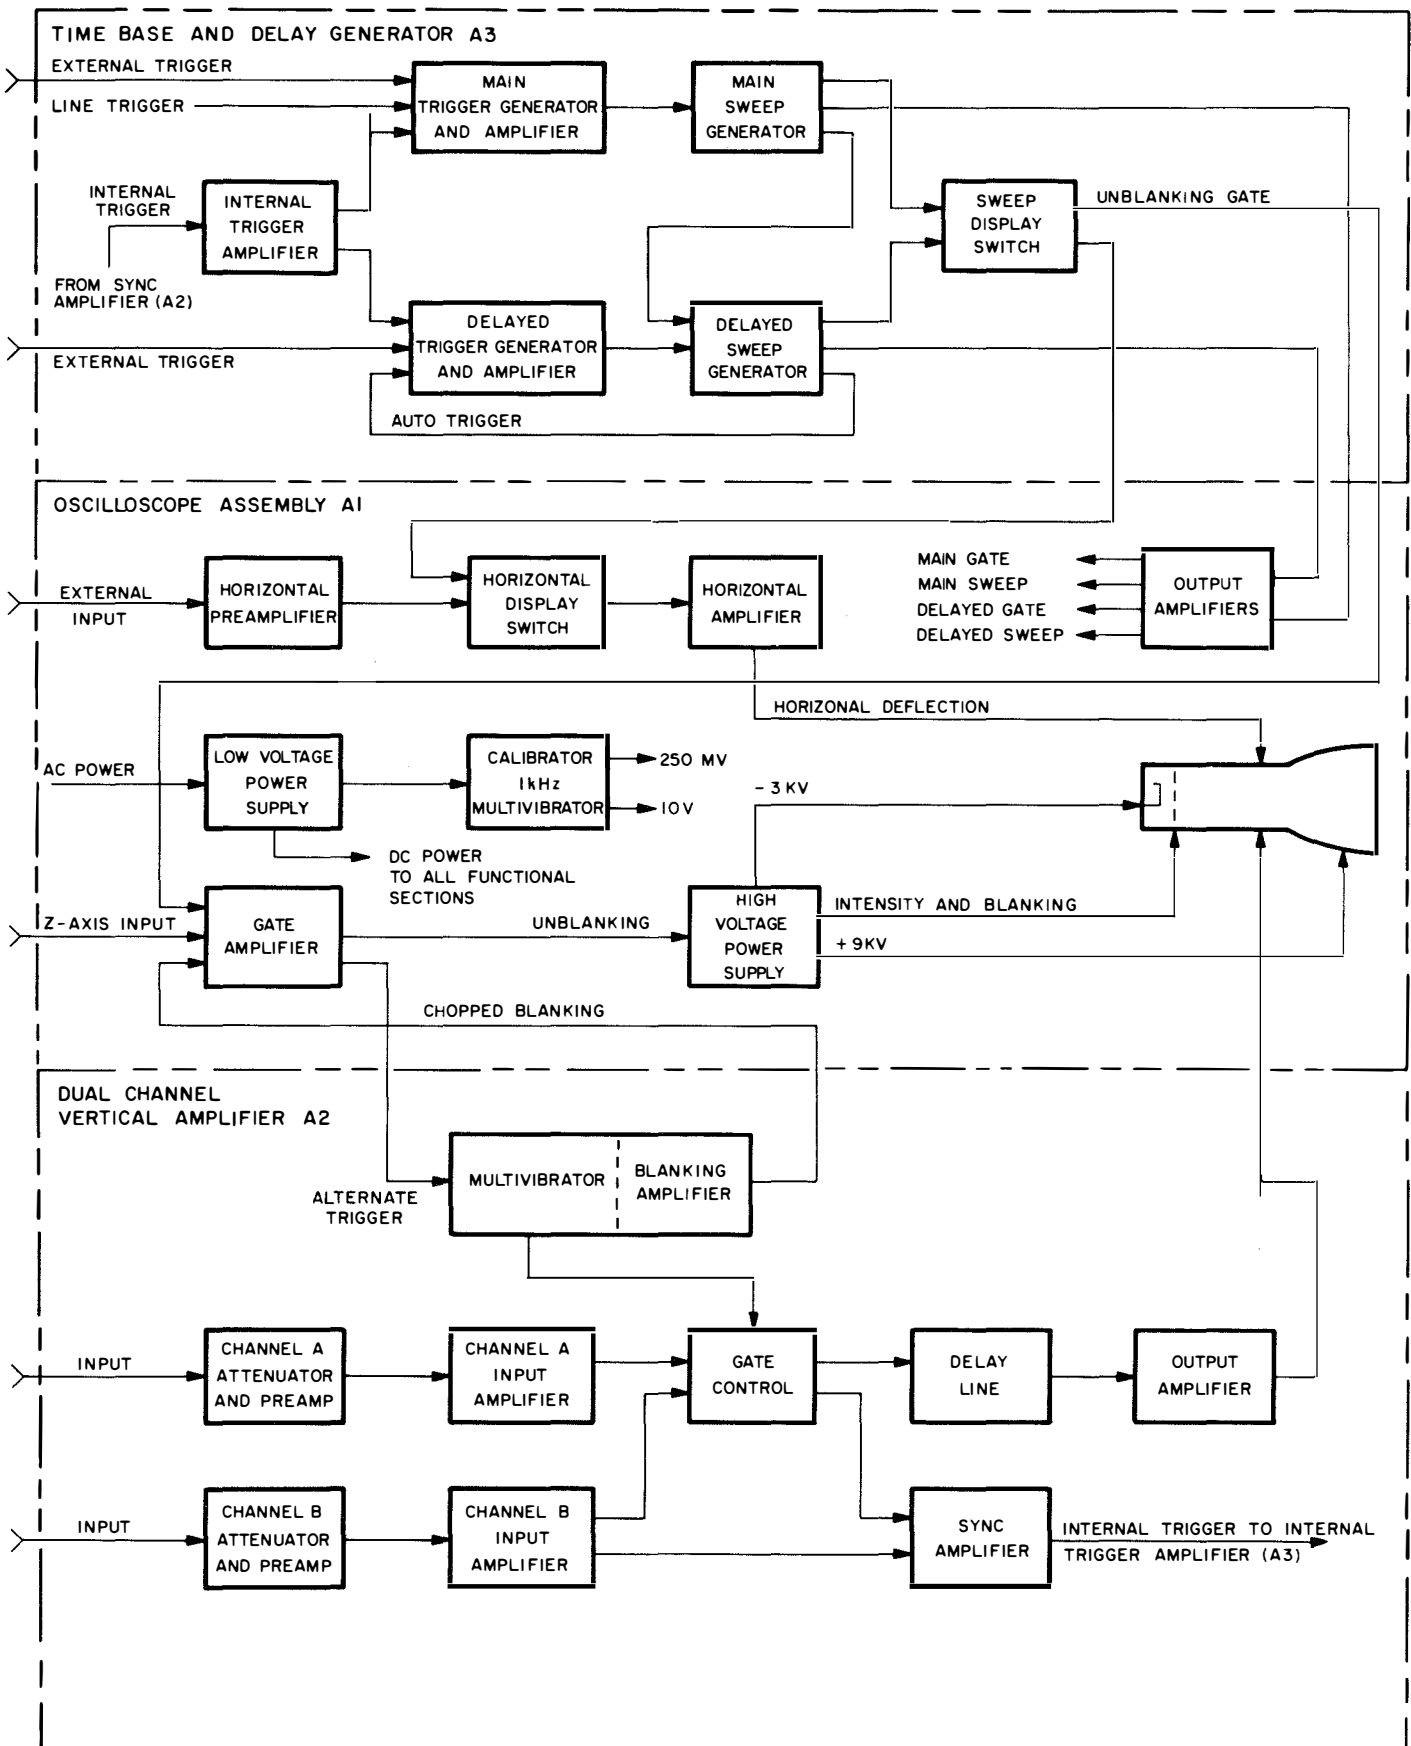
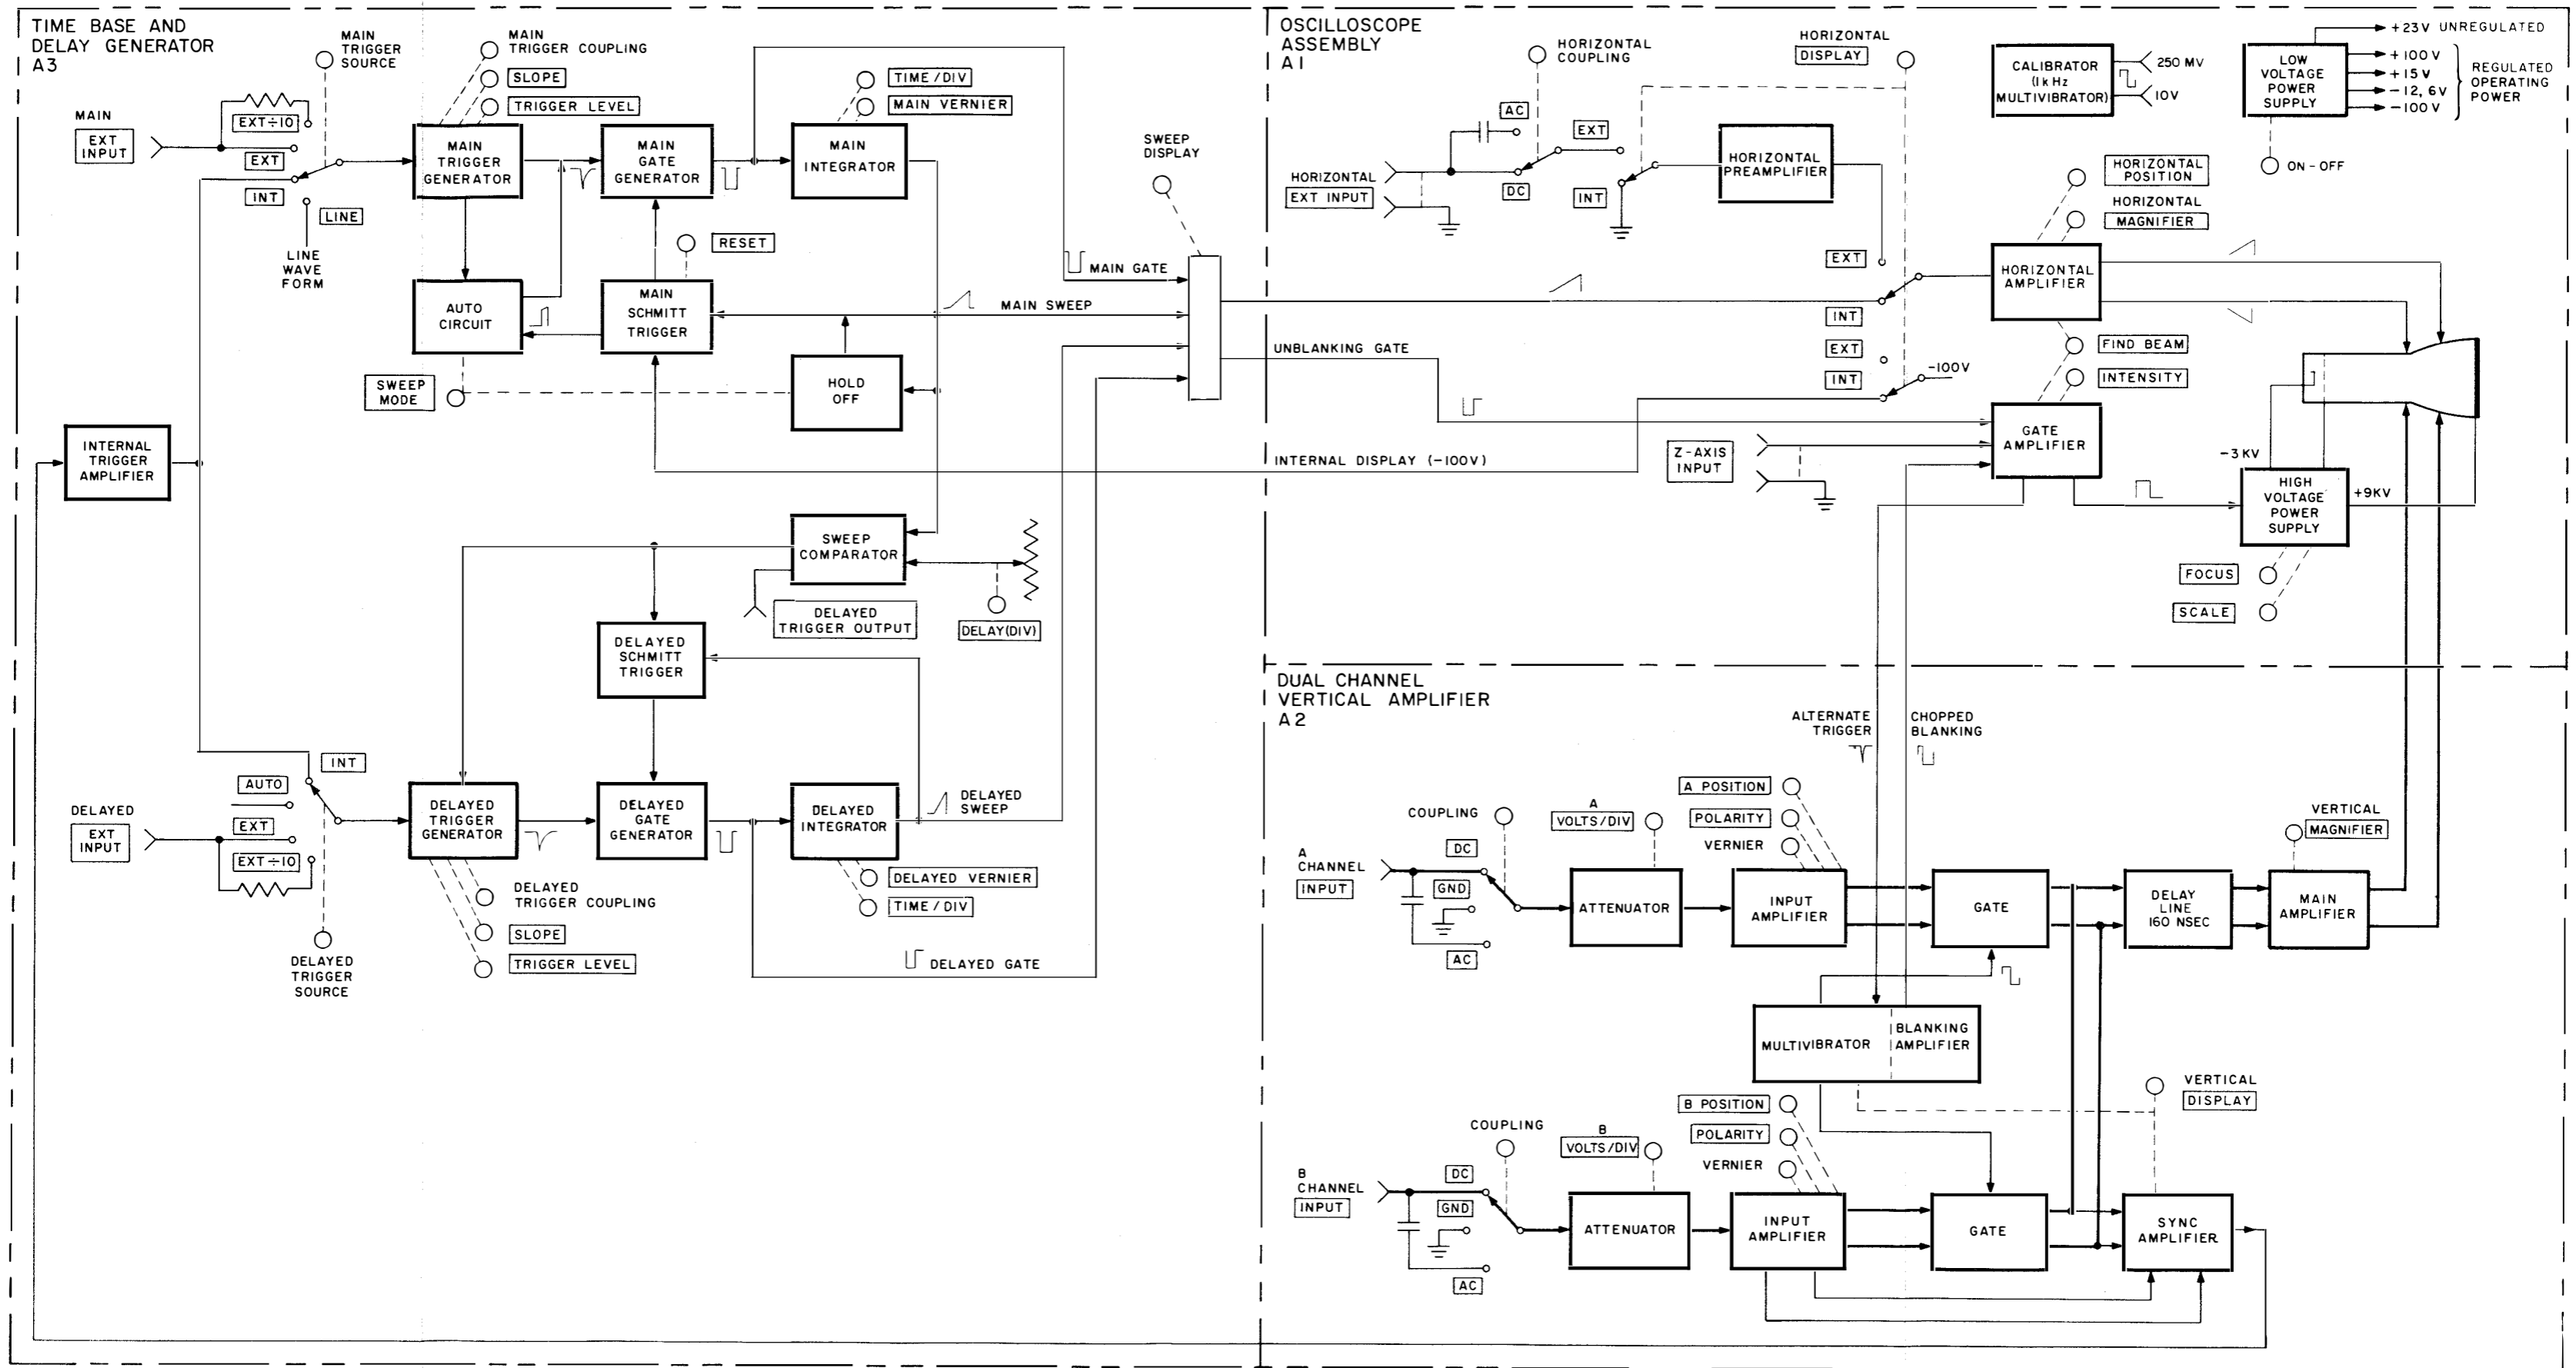

Figure 4-1. Oscilloscope Overall Functional Block Diagram
Figure 4-2. Oscilloscope Overall Functional and Servicing Block Diagram
c. LISTING PROBABLE FAULTY FUNCTION. - The next step in the logical trouble shooting is to formulate a number of mental choices as to the cause and functional section of the malfunction. This decision must be based on a complete understanding of instrument operation, and a full identification of the trouble symptom. With this in mind, consult the overall functional description and the associated block diagram (figure 4-1) and select the possible faulty functional sections.
d. LOCALIZING THE FAULTY FUNCTION. - After selecting the possible faulty functional sections the trouble must be systematically isolated to one functional section. This is accomplished by testing each section in the most efficient order. Use the overall trouble shooting section (table 4-2) and servicing block diagram (figure 4-2) as an aid in isolating the problem to a single functional section.
The oscilloscope requires three signals to produce a usable display on the CRT. These are intensity, horizontal deflection, and vertical deflection. Refer to figure 4-1 for the functional block diagram of the oscilloscope. The circuitry for producing intensity is included in the oscilloscope assembly and consists of the low and high voltage supplies and the gate amplifier. The circuitry for producing internal horizontal deflection consists of the horizontal amplifier contained in the oscilloscope assembly; and the internal trigger amplifier, main and delayed trigger generators, and main and delayed sweep generators located in the time base and delay generator. The oscilloscope assembly also contains a horizontal pre-amplifier for accepting external horizontal deflection signals. The circuitry for producing vertical deflection is located in the dual channel vertical amplifier and consists of a channel A and B attenuator and pre-amplifier, a channel A and B input amplifier and gate control, a main amplifier, a multivibrator, and a sync amplifier. To aid in trouble shooting, these main circuits have been divided into functional sections. These functional sections are listed and briefly described in the following paragraphs.
j. **MAIN TRIGGER GENERATOR AND AMPLIFIER.** - The main trigger generator (depending on the setting of the main trigger source switch) receives a trigger signal from an internal, external, or line source. If the internal source is selected, the trigger signal from the sync amplifier is amplified by the internal trigger amplifier (in the time base and delay generator) before it is applied to the trigger generator. The main trigger generator and amplifier amplifies the selected trigger signal, compares it to a present trigger level (determined by the main TRIGGER LEVEL control) and provides a sharp negative trigger pulse to the main gate generator (figure 4-2). If the main trigger generator receives no input trigger signal while operating in the NORM or SINGLE mode, it produces no trigger output. In the AUTO mode the trigger generator produces a trigger output in the absence of an incoming trigger signal.
k. **MAIN SWEEP GENERATOR.** - The main sweep generator functional section (figure 4-1) consists of the main gate generator, the main integrator, a hold-off circuit and the main Schmitt Trigger. See figure 4-2. When the main gate generator is triggered by the main trigger generator it produces a negative rectangular gate pulse. The gate pulse is applied through the sweep display switch to the gate amplifier in the oscilloscope assembly to unblank the CRT. At the same time the gate signal enables the main integrator and the integrator begins generating a positive-going sawtooth (sweep) voltage at a rate determined by the setting of the main TIME/DIV switch. This sweep signal is applied through the sweep display switch (in the MAIN and MIXED modes) to the horizontal amplifier in the oscilloscope assembly to drive the horizontal deflection plates. The main sweep signal is also applied to the main Schmitt Trigger and the hold-off circuit. When the sweep output reaches a preset level (determined by sweep length adjustment) the Schmitt Trigger switches and cuts off the gate generator to terminate the sweep signal. The sweep is removed from the hold-off circuit and, after a delay, the hold-off circuit applies a negative signal to the Schmitt Trigger causing it to switch and reset the main gate generator to the ready condition. When the main gate generator is in the ready condition the next trigger pulse causes the gate to repeat the sweep cycle. In the SINGLE mode of operation the hold-off output is disabled and the Schmitt Trigger and gate can only be reset by pressing the RESET pushbutton.
source, If the internal or external source is selected, the delayed trigger generator and amplifier amplifies the incoming trigger signal, compares it to a preset trigger level (determined by setting of delayed TRIGGER LEVEL control) and provides a sharp negative trigger pulse to the delayed gate generator (figure 4-2). If the auto trigger source is selected, the delayed trigger generator is disabled and the sweep comparator (in the delayed sweep generator) provides a positive trigger pulse to the delayed trigger output amplifier. The delayed trigger output amplifier amplifies and inverts the pulse to provide a negative trigger signal to the delayed gate generator.
m. DELAYED SWEEP GENERATOR. - The de-sweep generator functional section (figure 4-1) consists of the delayed gate generator, the delayed integrator, a sweep comparator, and the delayed Schmitt Trigger. See figure 4-2. The delayed gate generator and delayed integrator function the same as the main gate generator and main integrator (paragraph k above). The delayed sweep output is applied through the sweep display switch to the horizontal amplifier only in the MIXED and DELAYED sweep modes. In the MIXED mode both the main and delayed sweeps are applied to the horizontal amplifier. In the DELAYED mode, only the delayed sweep is displayed. The sweep comparator receives the main sweep signal from the main time generator and compares it to a voltage level set by the DELAY(DIV) control. When the main sweep voltage exceeds the set level, the comparator provides a positive output pulse to reset the delayed Schmitt Trigger and enable the delayed gate generator. If the auto source is selected, the comparator output is also applied to the trigger generator as previously described. When the delayed gate is enabled the first trigger pulse (immediately in auto) starts the sweep cycle. The delayed sweep cycle is terminated when the sweep reaches a predetermined voltage level and switches the delayed Schmitt Trigger to disable the gate.
c. OVERALL SERVICING BLOCK DIAGRAM. - The overall servicing block diagram for the oscilloscope is shown in figure 4-2. This diagram shows the overall relationship between the functional units and the typical waveforms to be expected. Since most waveforms in the dual channel vertical amplifier are dependent on the applied input signal, these waveforms have been omitted from the servicing diagram.